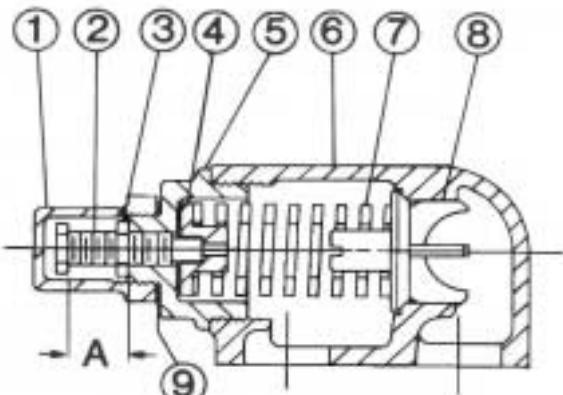

FIGURE 12
2. Measure and record length of extension of adjusting screw. Refer to "A" on Figures 12, 13 and 14.